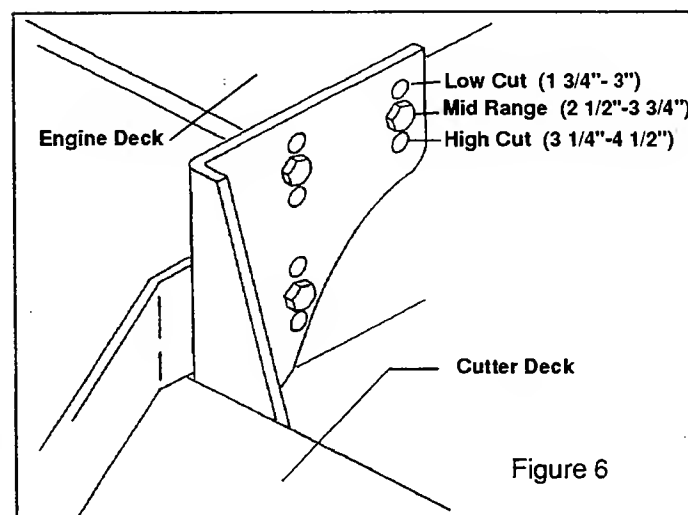

Figure 6
- Before beginning, determine which mounting holes are to be used to best suit the cutting height requirements of your customer. (see figure 6).
Additional range to the cutting height can be achieved by repositioning the cutter deck in relationship to the engine deck (This adjustment can also effect the pitch of the deck). There are 3 positions (see figure 6), suggested mounting is the middle holes. For cutting lower, mount the deck in the top holes. To cut higher, mount the deck in the bottom holes.